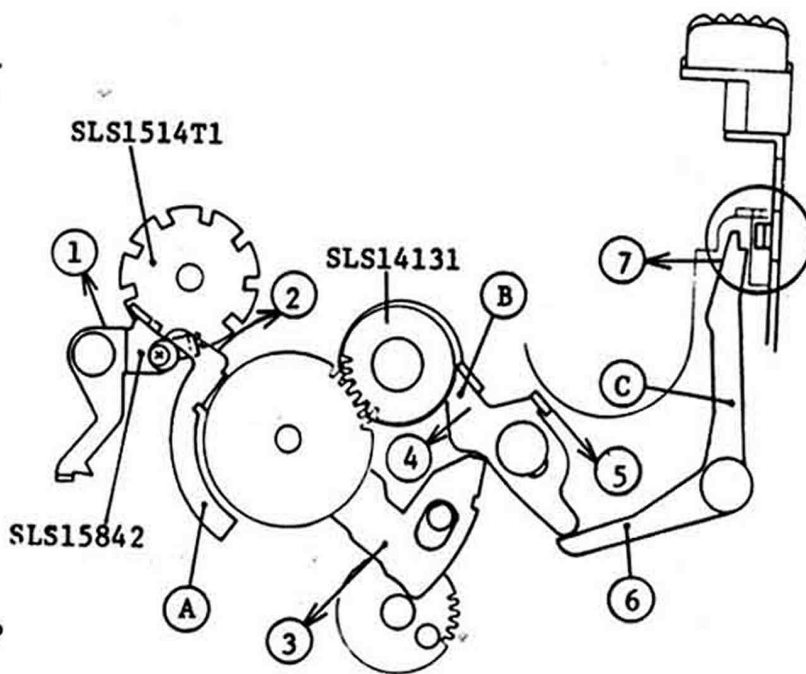

Fig. 14
- 3) When winding up film advance crank or knob, top of SLS15842 Stop lever goes into a hollow of SLS1541T1. And then moves (A) lever in direction shown by the arrow in Fig. 14.
- 4) When the (A) lever moving in direction → ② → ③, (B) stopper gets in cam of SLS 14131 (A) rotation stop disc. Then film advance crank or knob does not wind any more.